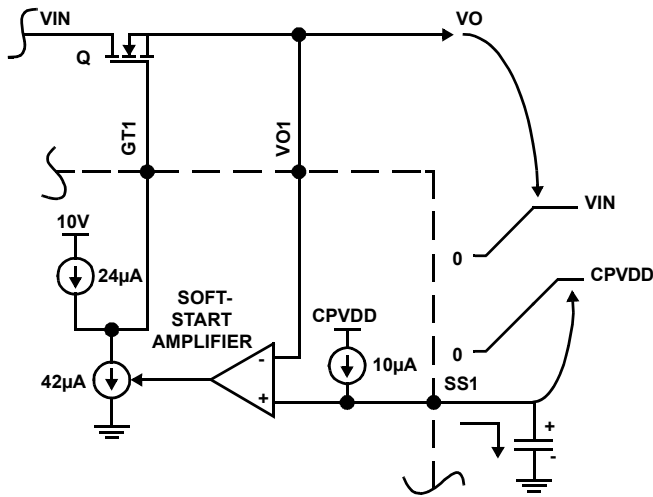

FIGURE 12. SOFT-START OPERATION
The output voltages are monitored through the Vo pins and slew up at a rate determined by the capacitors on the Soft-start (SS) pin, as illustrated in Figure 12. 24µA of gate charge current is available. The soft-start amplifier controls the output voltage by robbing some of the gate charge current thus slowing down the MOSFET enhancement. When the load voltage reaches its set level, as sensed by its respective UV pin through an external resistor divider, the Power Good (PG) output goes active.
I_{INRUSH} is the sum of the dc steady-state load current and the load capacitance charging current. If the dc steady-state load remains disabled until after the soft-start period expires ($\overline{PGX}$ could be used as a load enable signal, for example), then only the capacitor charging current should be used as I_{INRUSH} . The C_{SS} value should always be more than (1/2.4) of that of C_{ISS} of the MOSFET to ensure proper soft-start operation. This is because the C_{ISS} is charged from 24μA current source whereas the C_{SS} gets charged from a 10μA current source (please refer to Figure 12). In order to make sure both V_{SS} and V_O track during the soft-start, this condition is necessary.